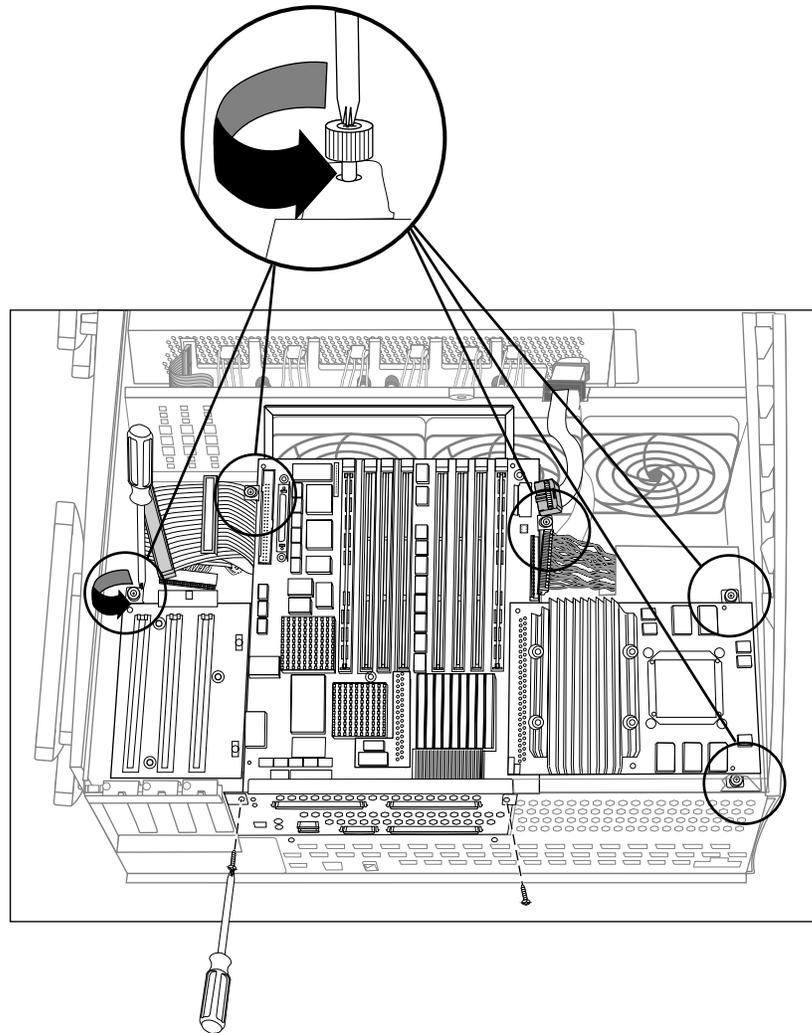

Figure 5-7 Unfastening the Logic Carrier
5. Unfasten the captive screws and sheetmetal screws that secure the logic carrier. See Figure 5-7.